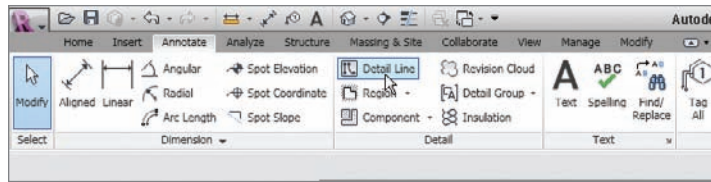

FIGURE 12.46 Click the Detail Line button on the Annotate tab.
2. On the Detail panel of the Annotate tab, click the Detail Line button, as shown in Figure 12.46.